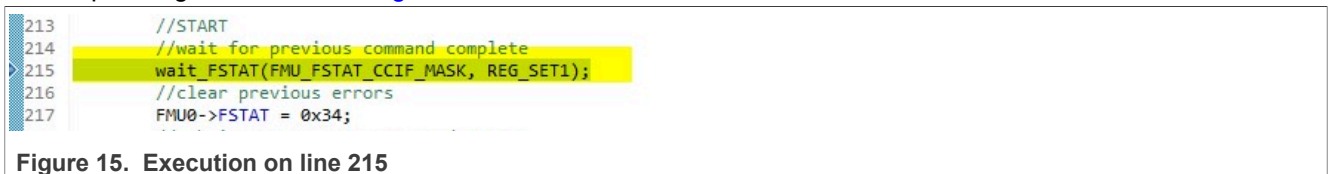

Figure 15. Execution on line 215
11. Step through line **215**, see Figure 15.